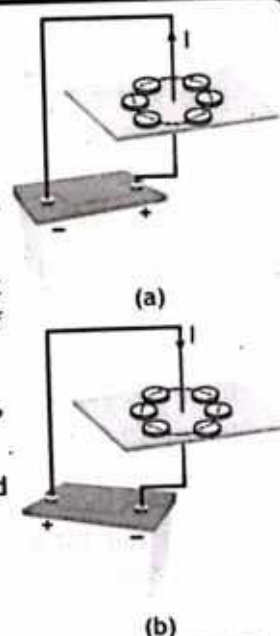

FIGURE 19.1
- Pass the wire vertically through a cardboard, as shown in the figure 19.1 (a).
- Connect the two ends of the wire with the terminals of the battery so that current (I) flows through the wire in the anti-clockwise direction.
- If we reverse the direction of the current by reversing the terminals of the battery, the compass needle also reverses its direction, as shown in the figure 19.1 (b).